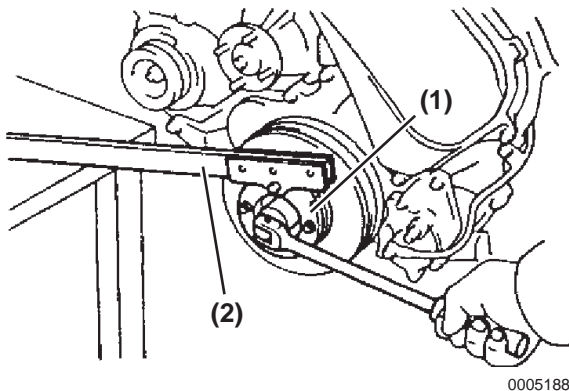

Figure 5-188
2. Loosen the crankshaft pulley bolt using special tools P/N 119770-01090 (**Figure 5-188, (1)**) and 119770-01120 (**Figure 5-188, (2)**).